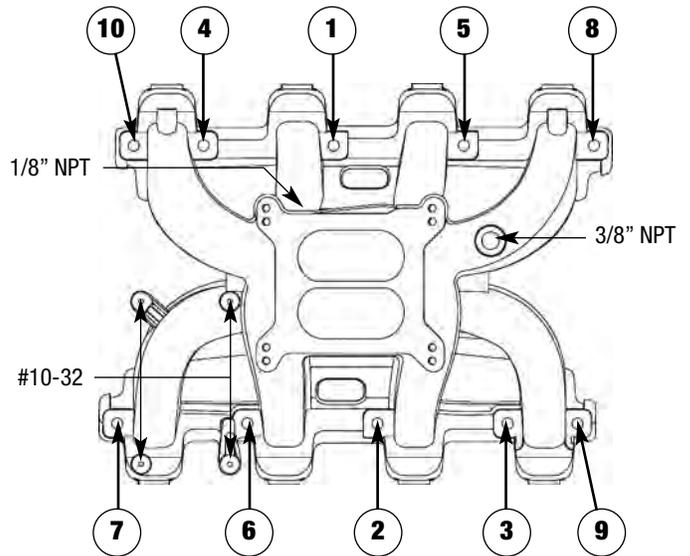
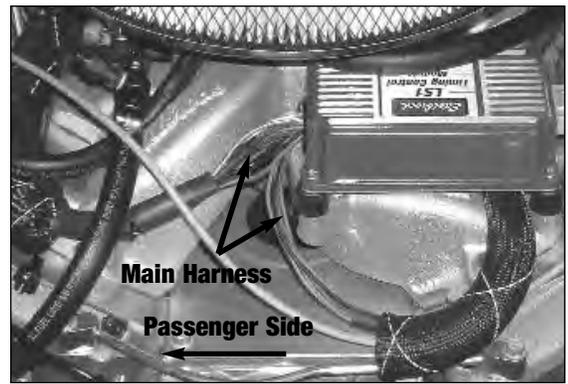

Figure 1 - Intake Manifold Tightening Sequence
Figure 4 - Timing Control Module Mounting
1. (**Note:** Use only original equipment (GM P/N 12533587) O-Ring type gaskets when installing this intake manifold). No gasket sealer is required when using the OEM type gaskets. Install eight of the supplied 6mm x 50mm hex head bolts and 1/4" AN washers, into all of the manifold bolt holes except for the two rear driver's side bolt holes (hand tighten only). Using the remaining two 6mm x 50mm bolts and AN washers, attach the GEN III Throttle Bracket Base to the two rear driver's side manifold bolt holes (hand tighten only). Following the torque sequence in **Figure 1**, torque all manifold bolts to 11 ft/lbs.
3. Apply a bit of liquid Teflon thread sealant to the threads of the supplied 1/8" NPT to 1/4" hose fitting and install the fitting into the 1/8" NPT hole in the passenger side of the plenum (**See Figure 1**). Install your carburetor (Use only recommended carburetors for best performance) and using the rear passenger side carburetor stud/nut, attach the MAP sensor and bracket to the carburetor (**See Figure 3**). Connect the sensor to the fitting with the supplied 1/4" hose.
- Using the supplied hardware included with the Timing Control Module, attach the module to the four #10-32 mounting holes on the Performer RPM intake manifold (**See Figure 1**). Mount the module so that the main harness will face towards the passenger side (**See Figure 4**).
NOTE: If you choose to mount the Timing Control Module in another location, you will need to plug the #10-32 mounting hole nearest to the carburetor pad on the #1 runner (See Figure 1). The drilled hole breaks thru into the runner therefore a vacuum leak will occur if it's not used.